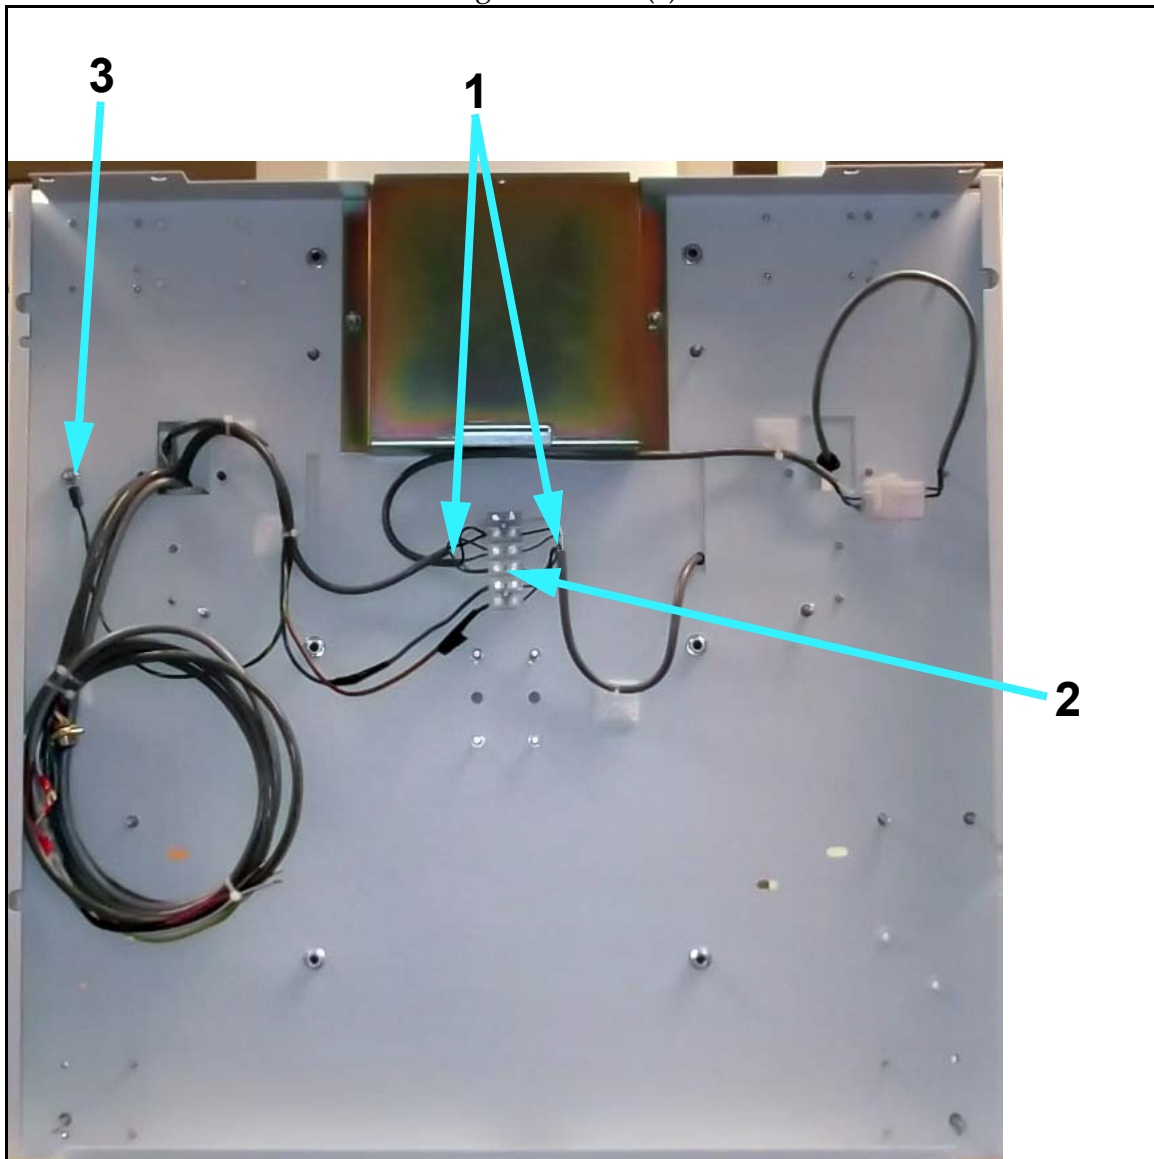

Figure 5-16. Terminal Connections
18 Disconnect the wires (1 in Figure 5-16) from the terminal (2).